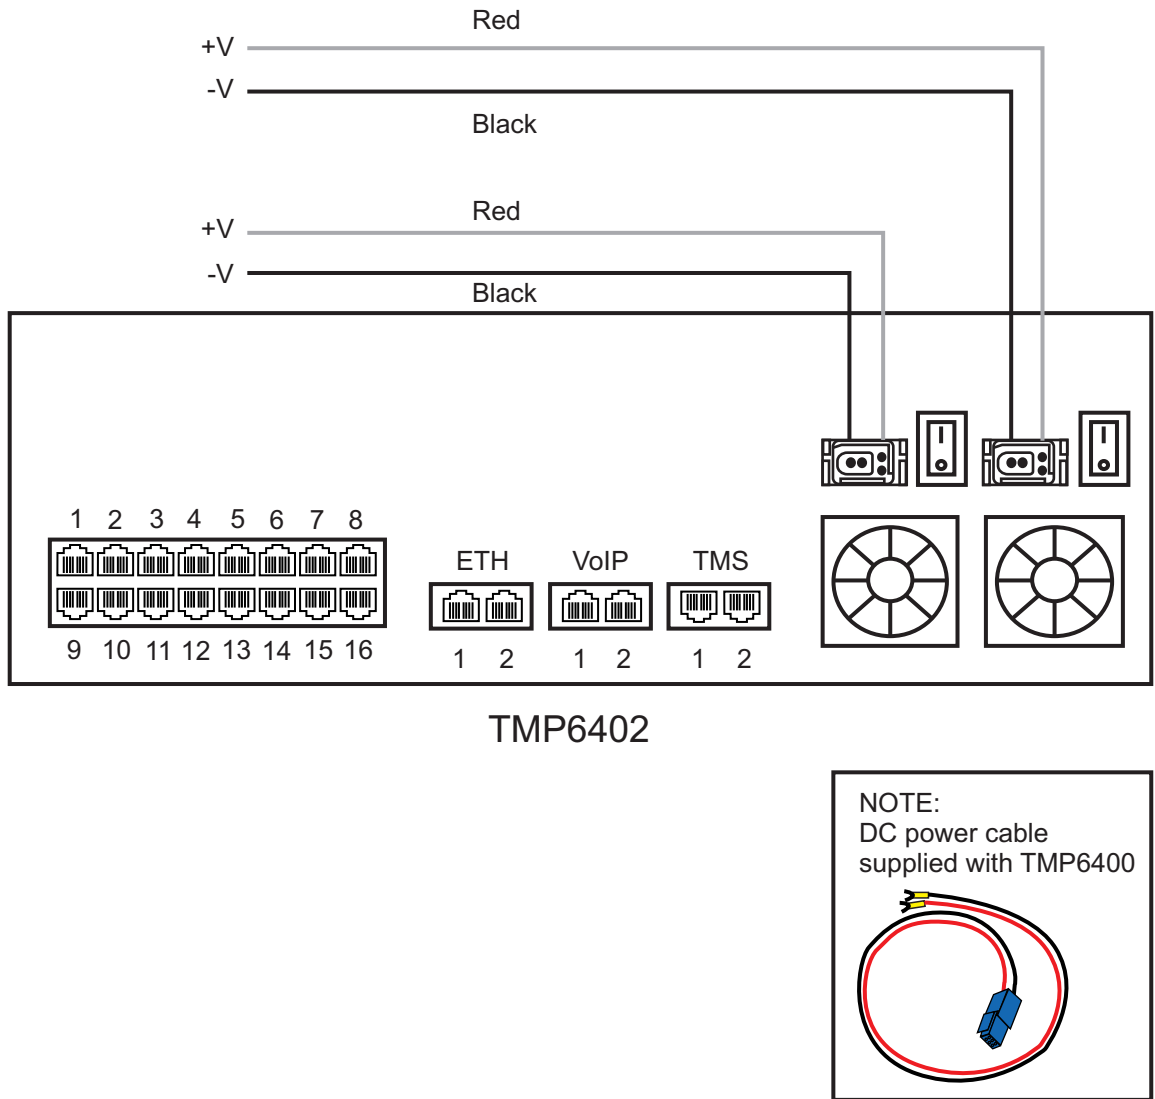

Figure 2.16 TMP6402 DC wiring diagram
1. Connect the DC cable supplied with the TMP6402, as shown in figure 2.16 on page 28, to the DC outlet at the rear of the TMP6402.
2. Connect the red lead of the DC power cable to the positive terminal of the DC power source, as shown in figure 2.16 on page 28.